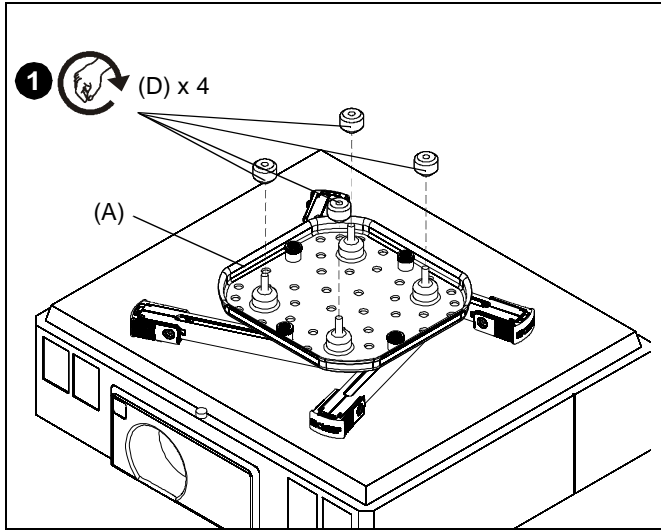

Figure 8
1. On SSBU, partially install four thumb nuts (D) to SSBU main plate screws. (See Figure 8)